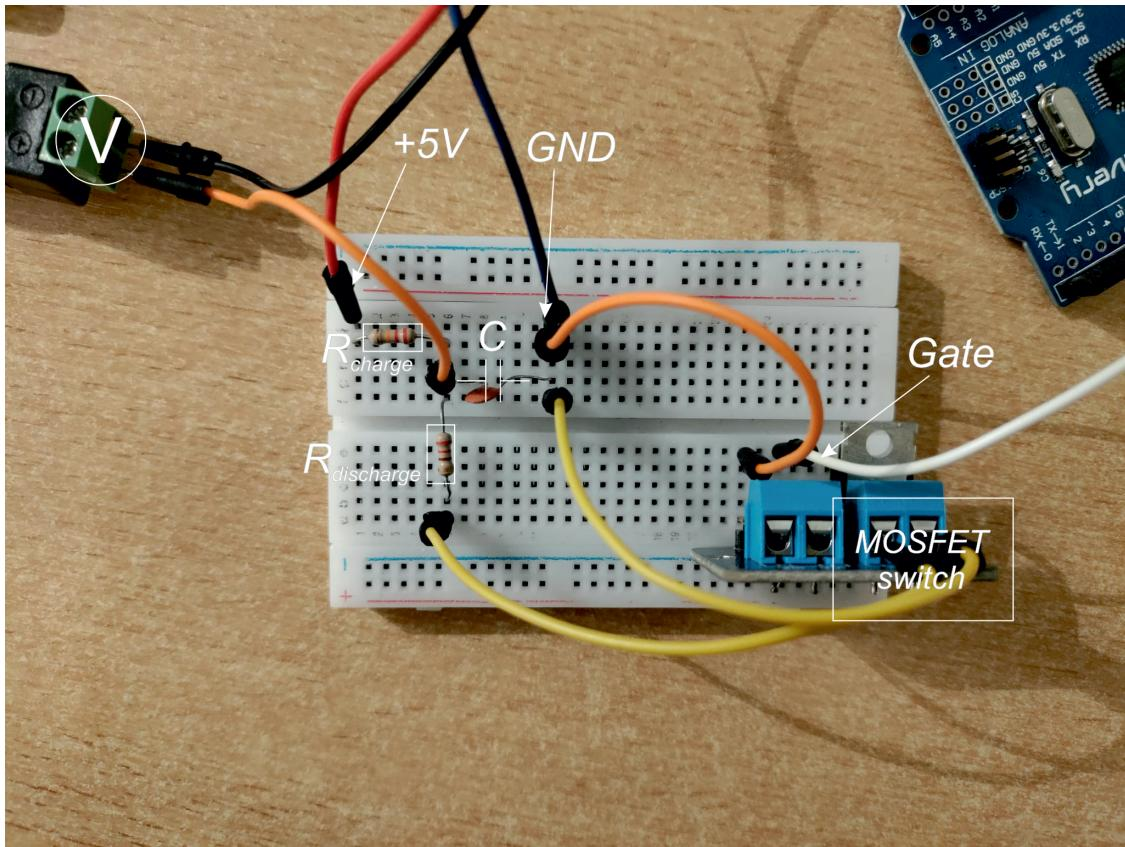

Figure 1.3: MOSFET Switch Circuit Closeup
3. A $22\text{ k}\Omega$ and $10\text{ }\Omega$ resistor was used as R_{charge} and $R_{discharge}$ respectively **Fig 1.3**. The purpose of using a high resistance value for R_{charge} was to impede the flow of current back into the power source during capacitor discharge.